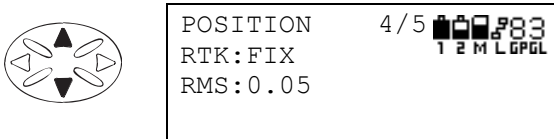

Figure 3-67. Position Status
- the RTK status (Figure 3-67).